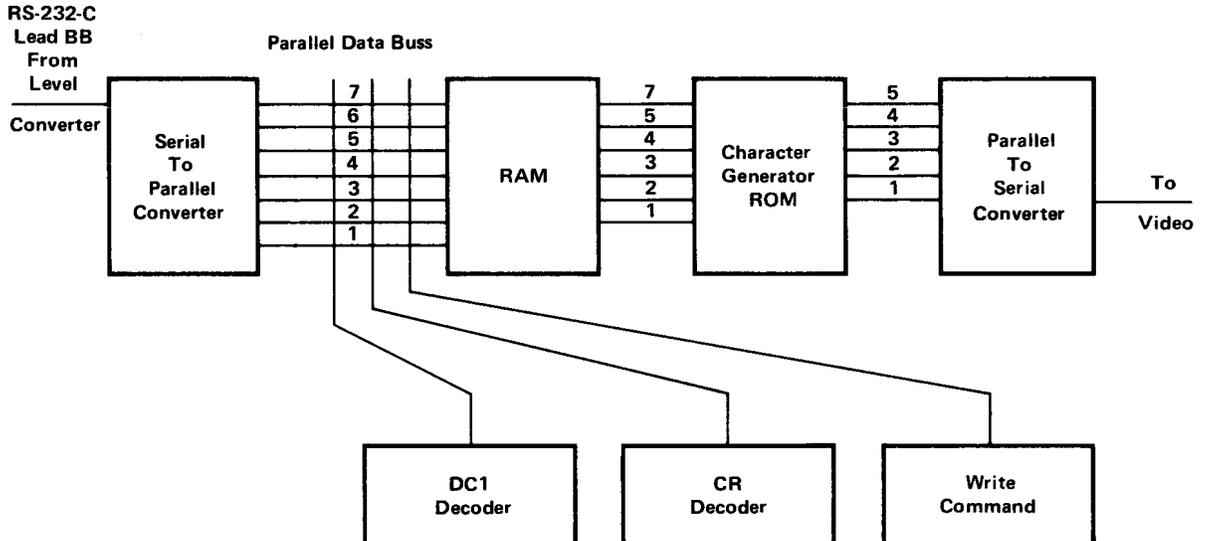

Figure 9, Data Converter Signal Flow Block Diagram
3.10 Terminal logic serial to parallel conversion, Figure 9, depicts the flow of data through the logical portion of the terminal. When the carrier detector senses a carrier, the serial-to-parallel converter is enabled to accept data. As a start pulse Mark-to-Space transition is detected, control signals step the data into the serial-to-parallel converter bit by bit. The start bit is stepped out of the converter by control logic just as the last information bit steps in. Control logic now stops further bits from entering the converter, holds the seven information bits on the parallel data buss momentarily, alerts other control logic and the decoders ahead with a control signal called OPERAND (or OPD) and prepares to accept a new character in the converter.